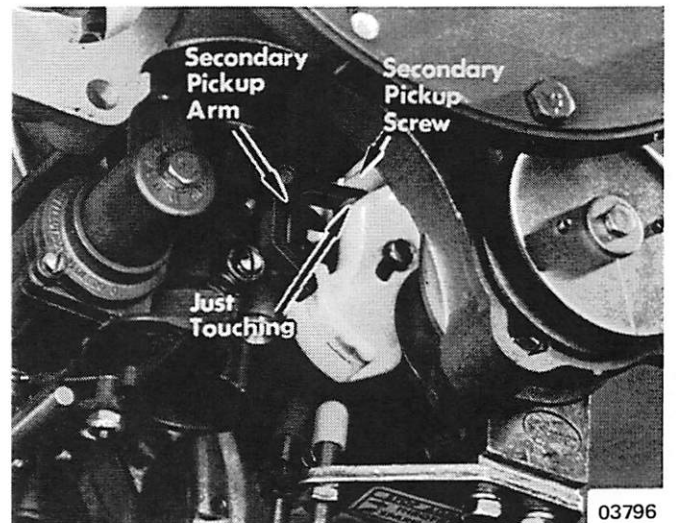

Figure 8. Secondary Pickup Adjustment
- With ignition driver against spark advance stop (but not actuating Economizer collar), adjust secondary pickup with screw on throttle actuator plate. (Figure 8) Turn screw until it just touches secondary pickup arm on carburetor cluster. Tighten jam nut.